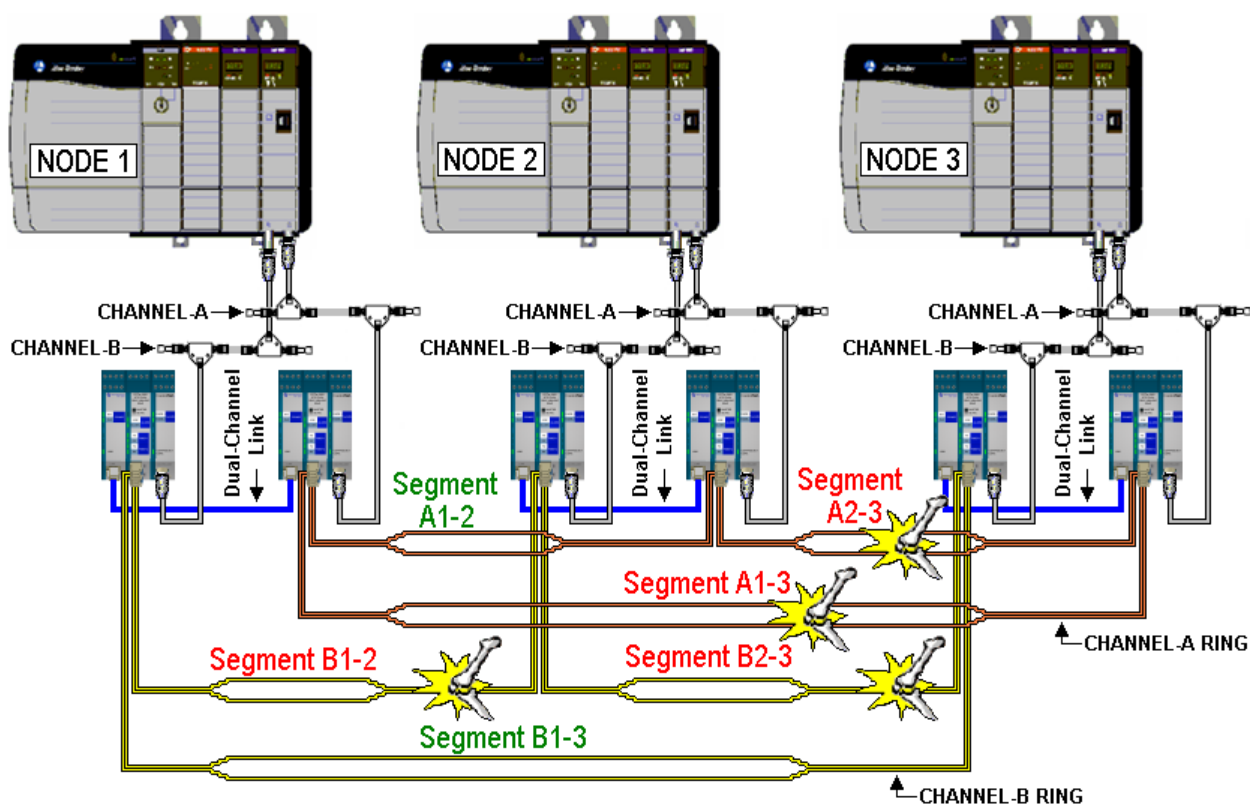

Figure 3-7: Multiple Dual Ring Breaks
Dual channel redundancy is the most effective way to protect the integrity of your ControlNet system. Using the EOTec 2C32, dual-redundant rings can be created on any ControlNet systems where single-channel ControlNet Bridges (CNBRs) are used. A Dual Self-Healing ring can withstand multiple fiber breaks as shown Figure 3-7. Although fiber segments A2-3, A1-3, B1-2, and B2-3 are all broken, Node-3 can still communicate with the other two nodes over fiber segment B1-3. A chain of communication still remains between all three nodes (segment A1-2 and B1-3).
- A dual-redundant configuration increases network reliability by providing two alternative paths for message flow in the event of a network segment or power failure. When a communication segment break occurs, messages are automatically captured from an alternative communication path as shown in Figure 3-7.